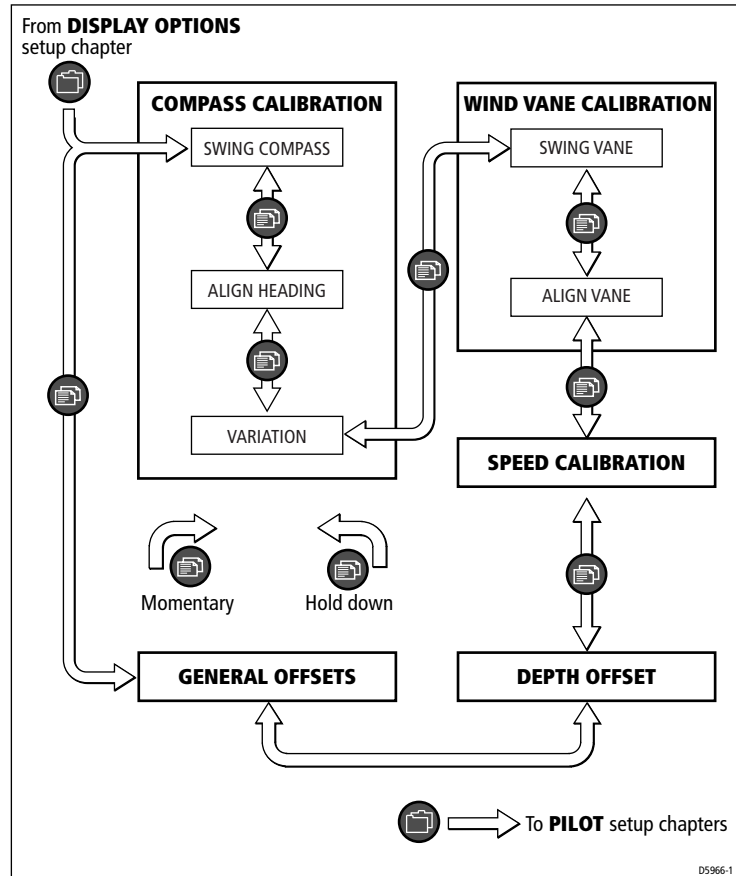

Figure 2-21: Transducer calibration overview (Graphic Display)
An overview of the transducer calibration functions is given in *Figure 2-21*.
2. Press the  button to move to the calibration procedure you want to carry out (see *Figure 2-21*).